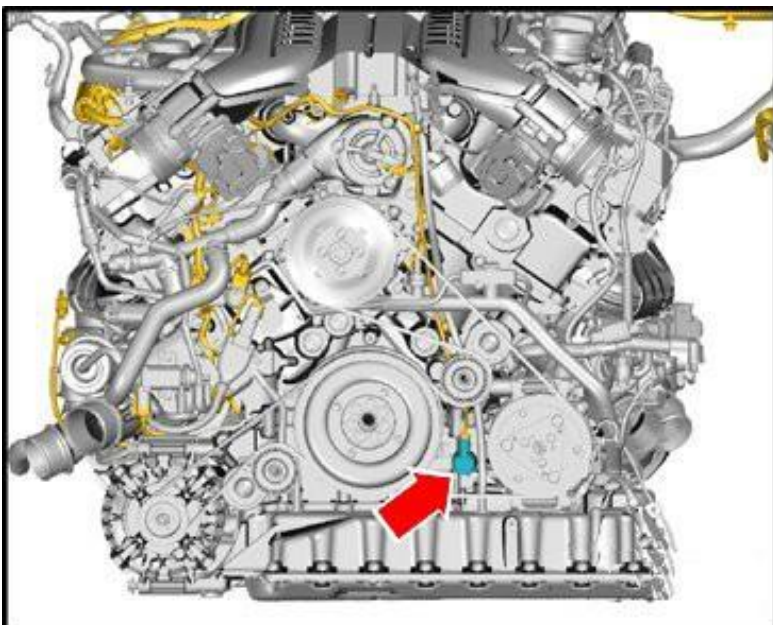

Figure 7
- Remove the Valve for Oil Pressure Control N428 (Refer to Figure 7 for fitting location) - When the valve has been removed carefully examine it and the associated location on the engine for any signs of internal contamination, debris or damage.